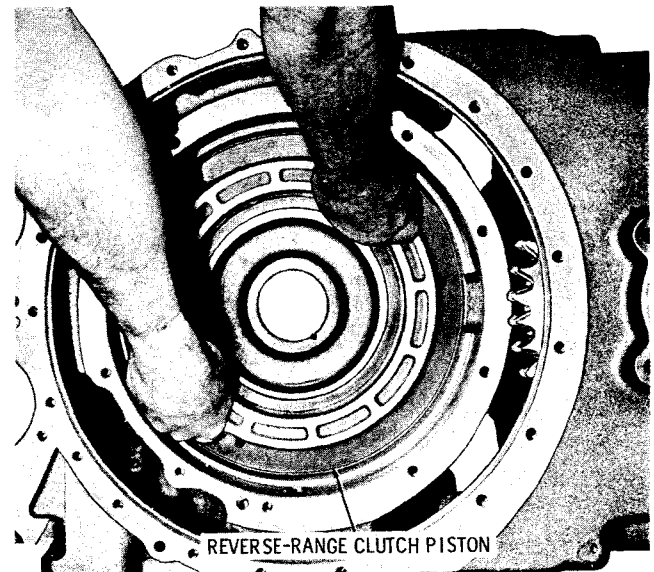

Fig. 5-58. Removing reverse clutch piston
c. Remove the reverse clutch piston from its bore in the transmission housing (fig. 5-58). Refer to paragraph 6-12 for clutch piston rebuild instructions.